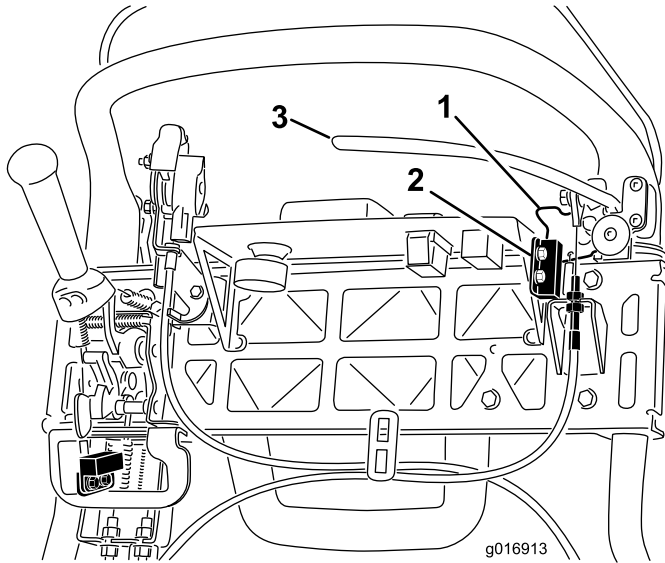

Figure 39
4. Loosen the interlock switch mounting fasteners (Figure 39).
5. Place a 1.6 mm (.062 inch) thick shim between the parking brake latch and the interlock switch (Figure 39).